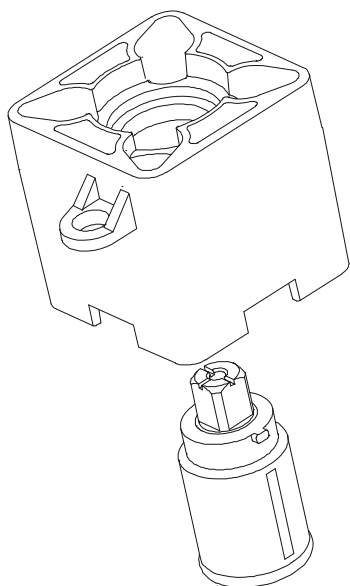

Figure 6: Installing the drive shaft into the thermal barrier
1. Install the thermal barrier drive shaft into the thermal barrier by aligning the tab on the drive shaft with the slot on the thermal barrier (Figure 6).